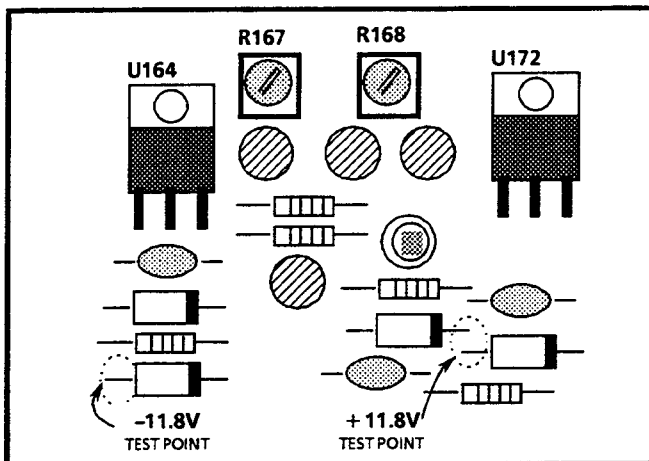

Fig. 5-15. Enlargement of a small portion of the Main circuit board (A3) showing the test points and adjustment location for the + and -11.8 V supplies.
- a. Connect the voltmeter ground lead to one of the rear-panel ground lugs and the active lead to the -11.8 V test point. See Fig. 5-15.
- c. Connect the voltmeter active lead to the +11.8 V test point. See Fig. 5-15.